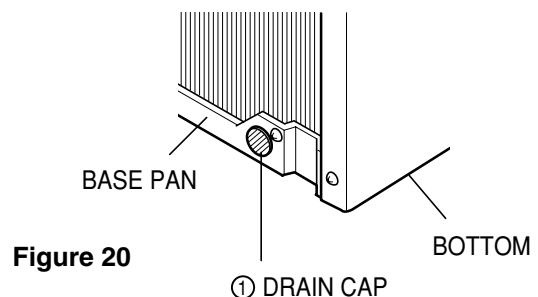

Figure 20
If the air conditioner is used in hot and a high humidity zone, exchange the ① DRAIN CAP for the ② DRAIN PIPE. (See Figure 20, Figure 21)